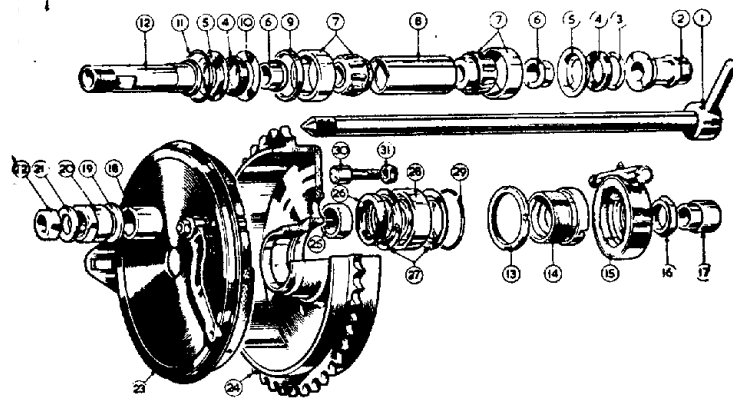

FIG 28 Rear brake and wheel bearings, de-luxe models
Dismantling rear wheel bearing (Fig. 28). Before removing the rear wheel, release the speedo drive fixing nut (16), disconnect speedo cable and take out the wheel.
Brake drum bearing Fig. 28. With the brake drum away from the frame, to dismantle: